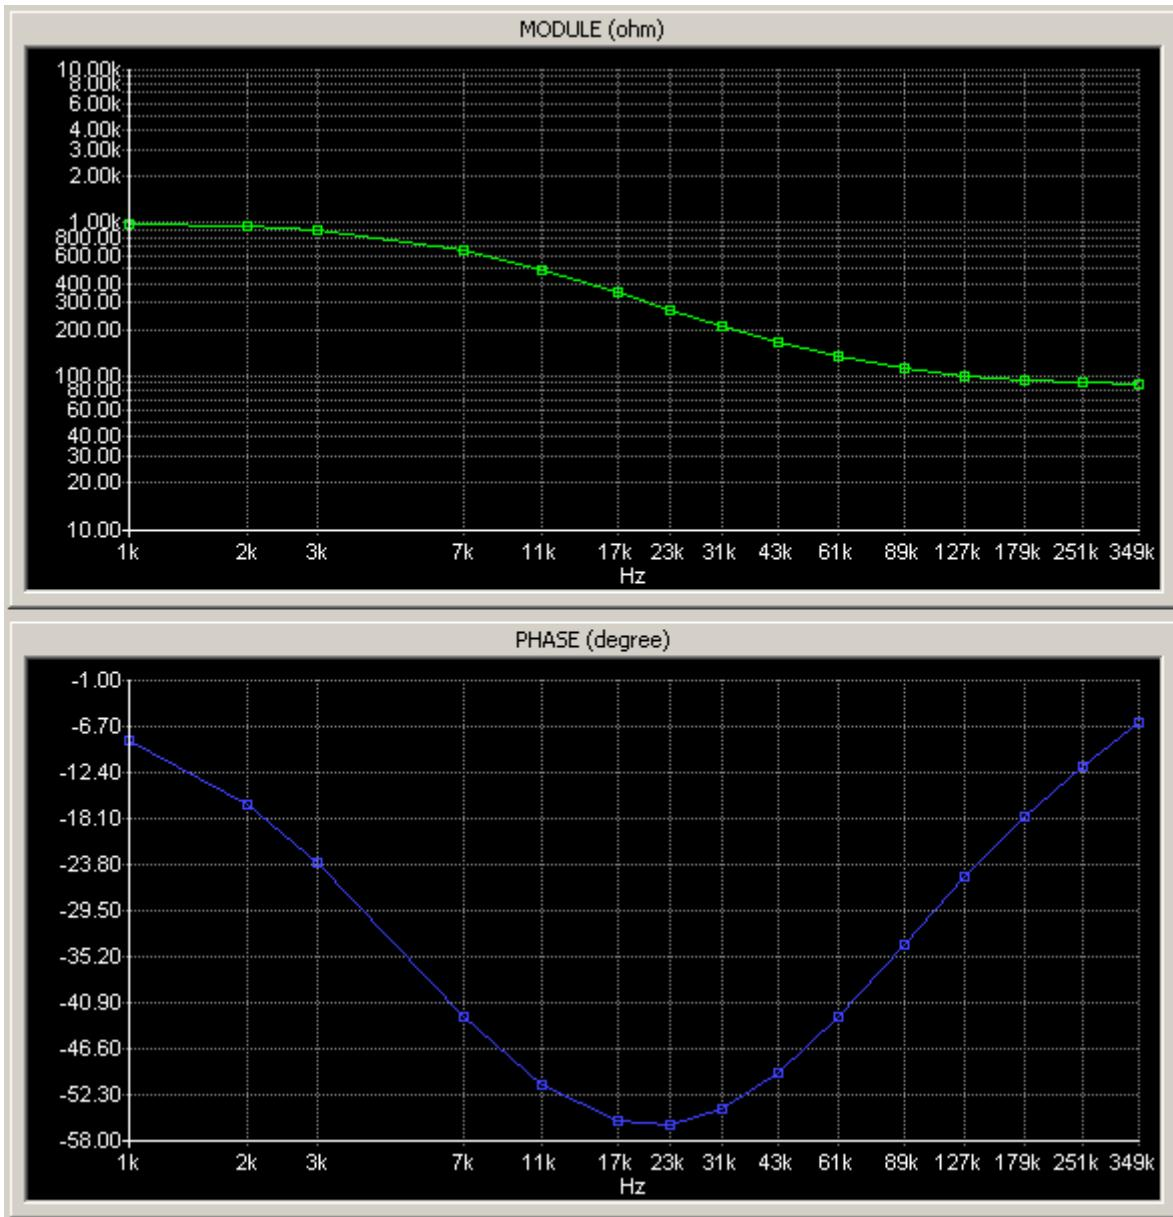

Figure 25 RC Circuit Impedance (button on the demo board is pressed)
10. The measured impedance of the second circuit is similar to examples on Figure 25.